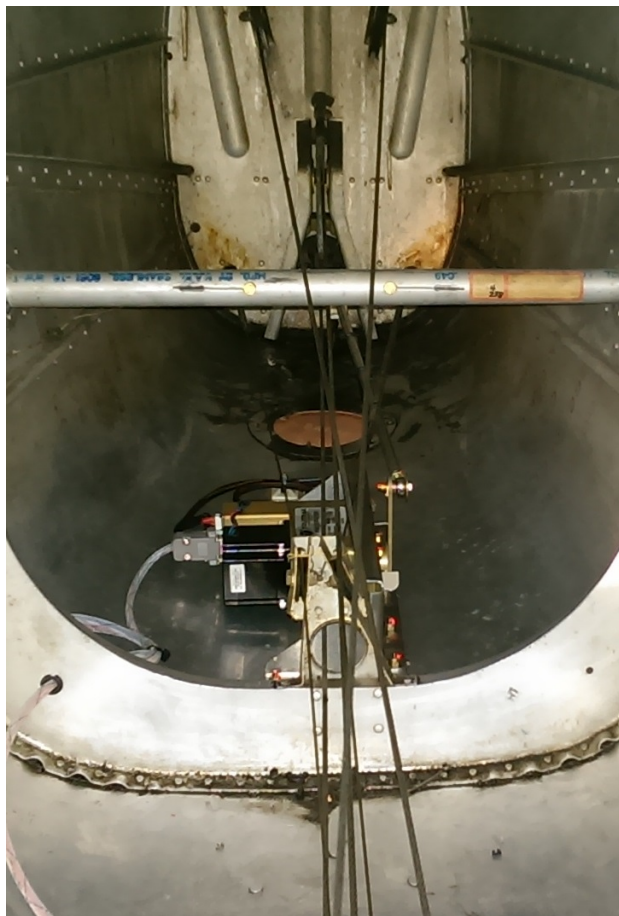

Figure 3-9
1. The pitch servo will be mounted in the aft fuselage as shown in Figure 3-9.